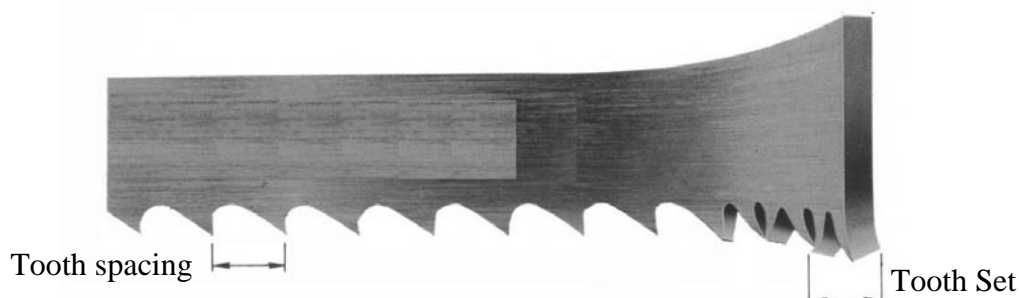

Fig. 7.1 Description of Band
- ☐ Wavy set has groups of teeth set alternately to right and left, forming a wave-like pattern. This reduces the stress on each individual tooth, making it suitable for cutting thin material or a variety of materials where blade changing is impractical. Wavy set is often used where tooth breakage is a problem. This is shown in Fig. 7.1 as follows: